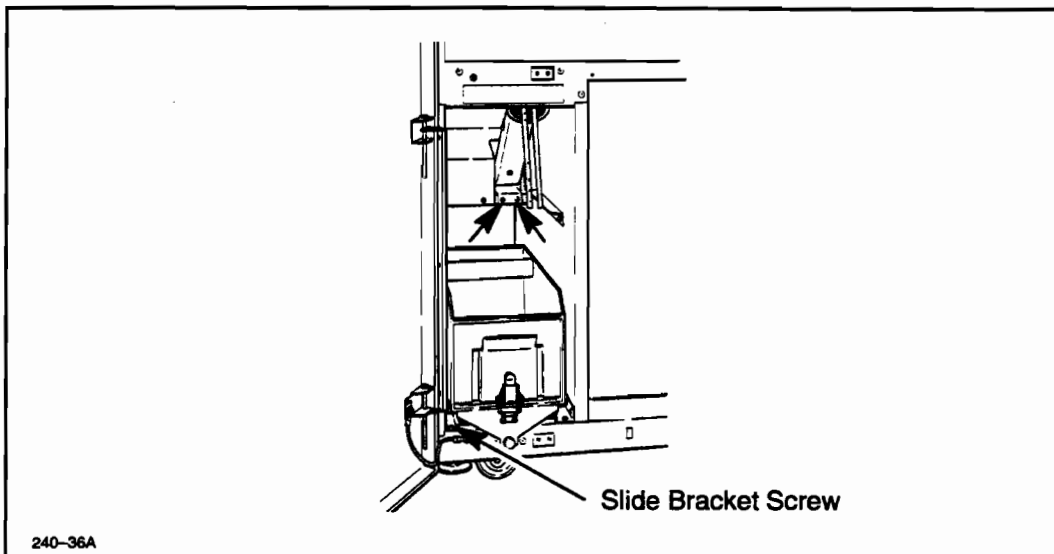

Figure 6-52. Syphon Assembly Mounting Screws
5. Unscrew the slide bracket screw and carefully slide the toner drawer out. See Figure 6-52.
10. Using a #2 Phillips screwdriver, remove the two mounting screws. See Figure 6-52.
4. Unscrew the slide bracket and slowly slide the drawer out so that the toner does not spill. See Figure 6-52.